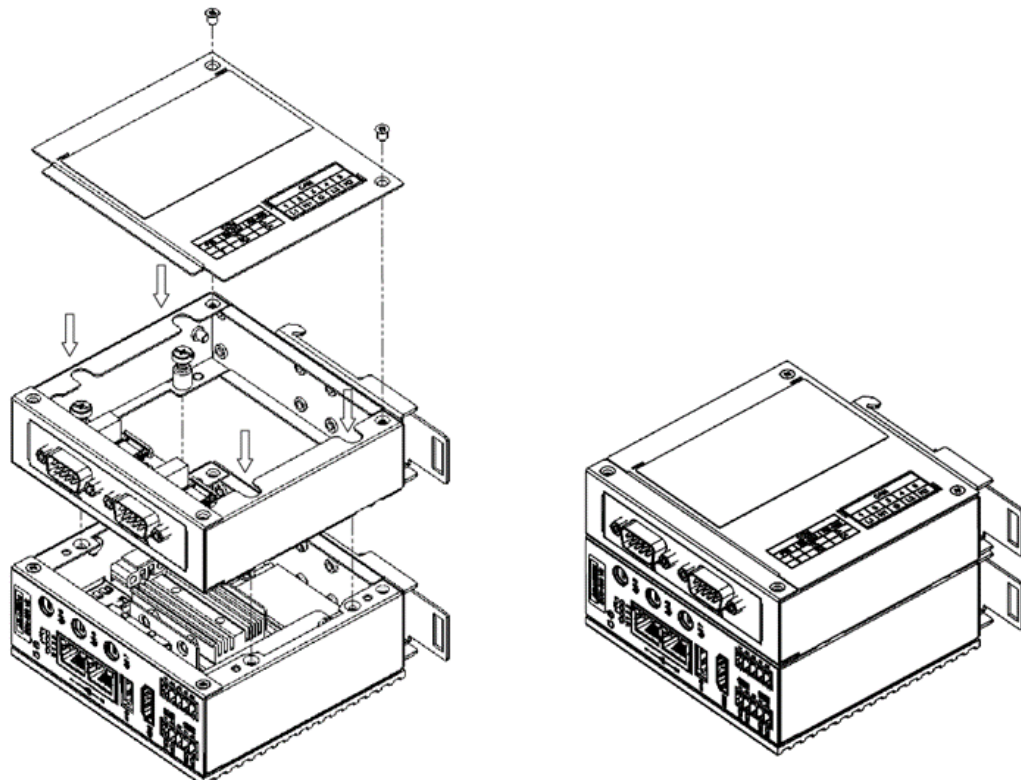

Figure 4.6 Secure the second stack to the main unit and reattach the side plate to complete the installation.
1. Remove the screws from the side plate and open the enclosure, as shown in Figure 4.6.